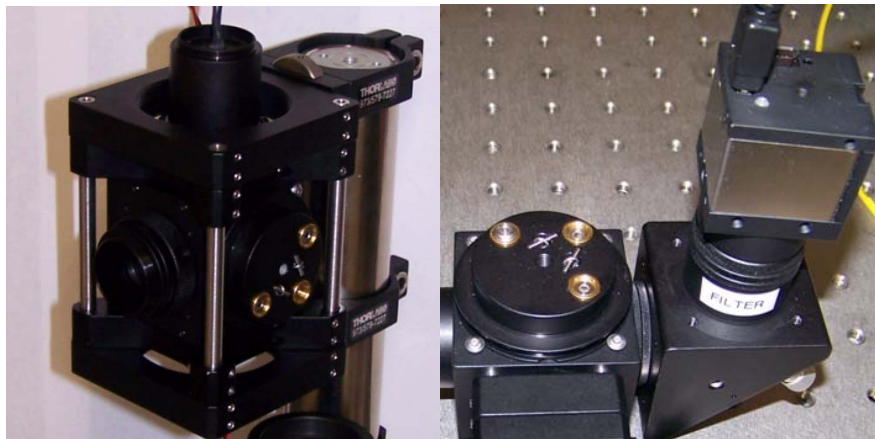

Figure 4.4.2: (Left) C6W cube and visible Light Source. (Right) The camera segment mounted.
18. Mount the OTKB-LS-SP LED source onto the LCP02 as shown in Figure 4.4.2.
23. Attach the DCU223M CCD camera to the SM1A9 as shown in Figure 4.4.2 (Right).